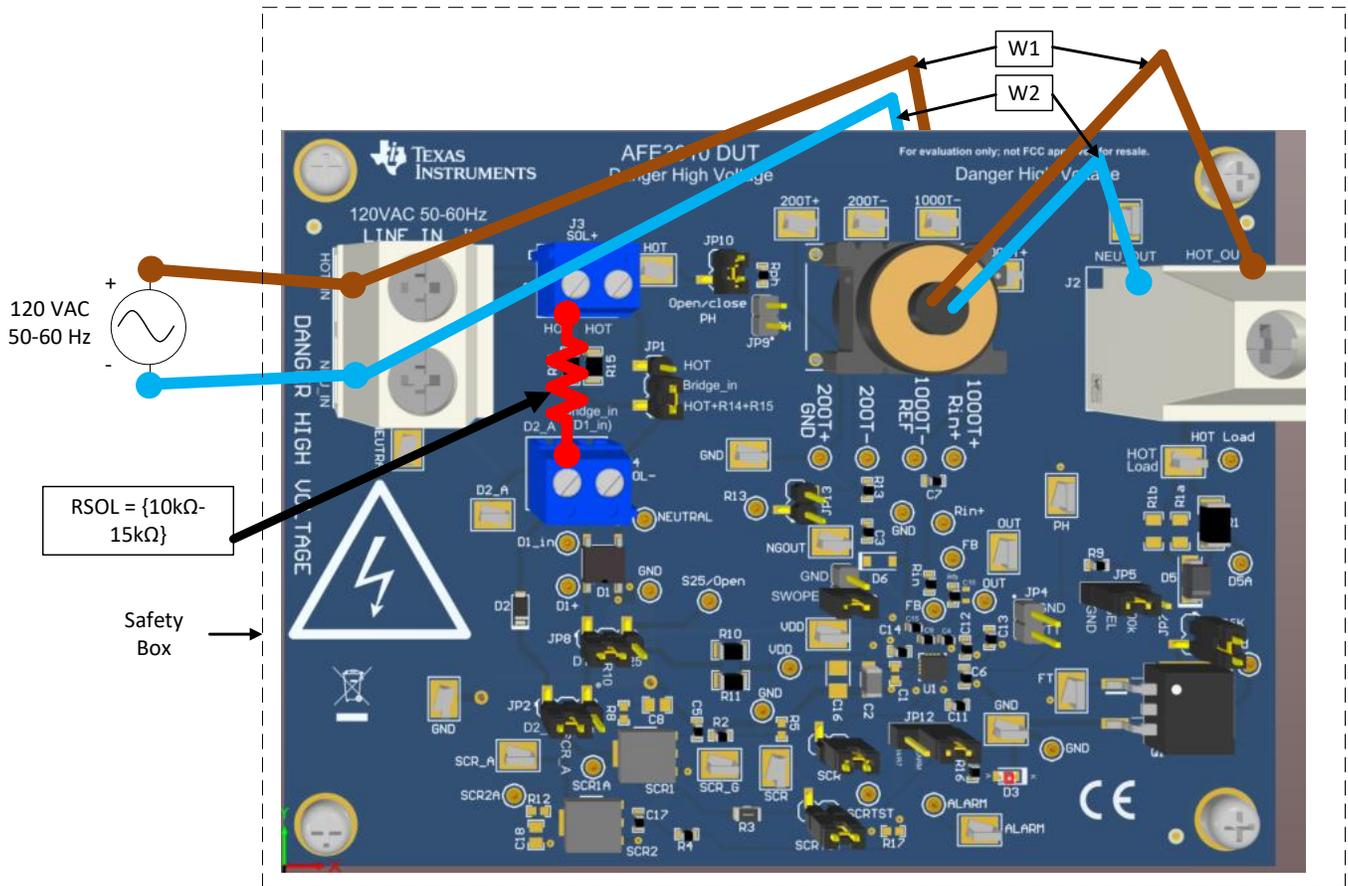

Figure 2. AFE3010EVM and Hardware Setup
- Step 4. Insert a solenoid (not included) from HOT (line side) to the anode of D2 (D2_A). Use the J3 and J4 headers to screw in solenoid terminal to ensure secure connections. Refer to Figure 2 on how to make this connection.
- Step 6. According to Figure 2 screw W1 and W2 into J1, feed through T1, and then screw into J2. It is important that the wires start at J1 and go through the T1 hole by entering from the bottom of the board.